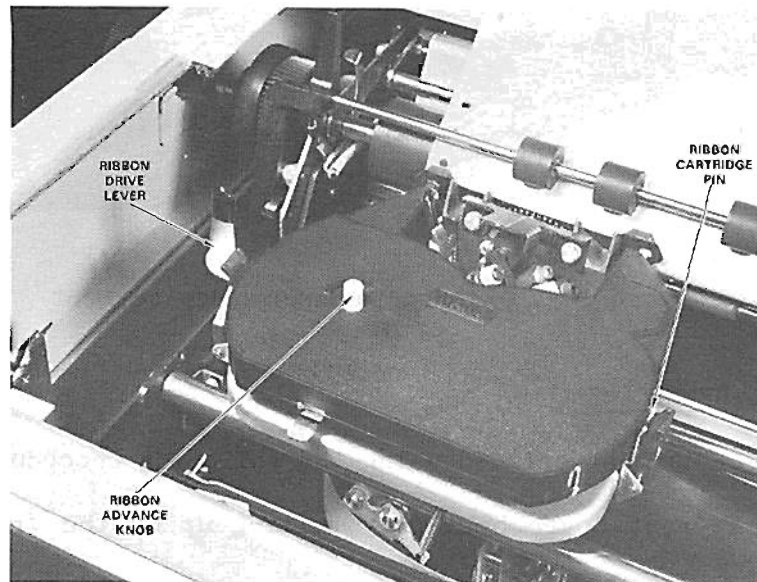
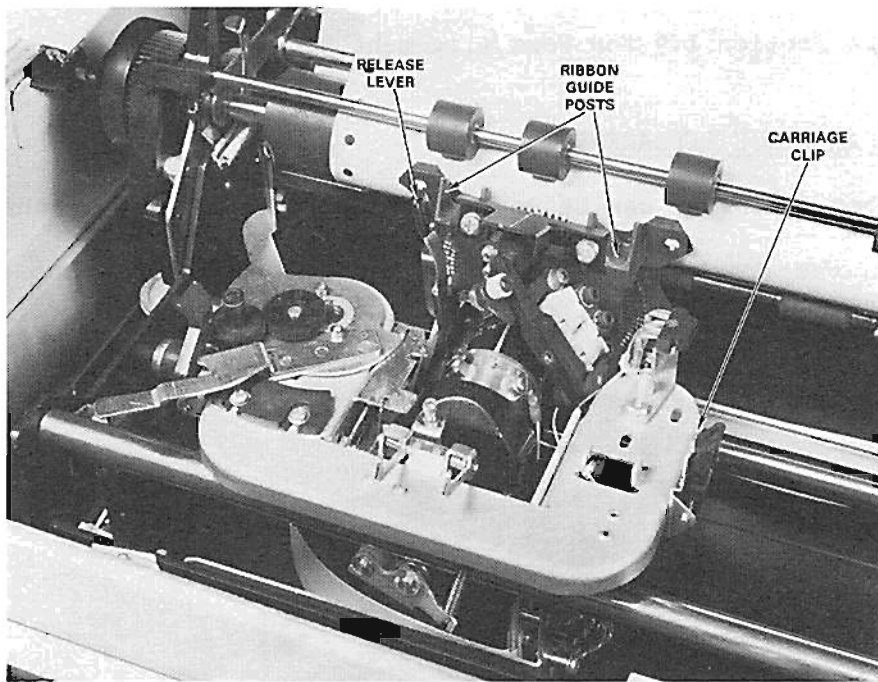

Figure 1-2. Ribbon Cartridge Removal
Figure 1-3. Ribbon Cartridge Replacement
2. Push the Ribbon Drive Lever (refer to Figure 1-2) to the left until the ribbon cartridge becomes loose.
4. Rotate the Ribbon Advance Knob on the new cartridge (refer to Figure 1-2) clockwise until the ribbon is taut.
5. To install a new cartridge, slide the exposed portion of the ribbon behind the two ribbon guide posts (refer to Figure 1-3) located in front of the print wheel. Align the right pin of the ribbon cartridge (refer to Figure 1-2) to the right clip on the carriage (refer to Figure 1-3), and push down on the cartridge until it snaps into place. The Ribbon Drive Lever should move back into position.
3. To expose the print wheel, gently pull the Release Lever to the extreme right, back as far as it will go, and to the left until it locks in place (refer to Figures 1-3 and 1-4).